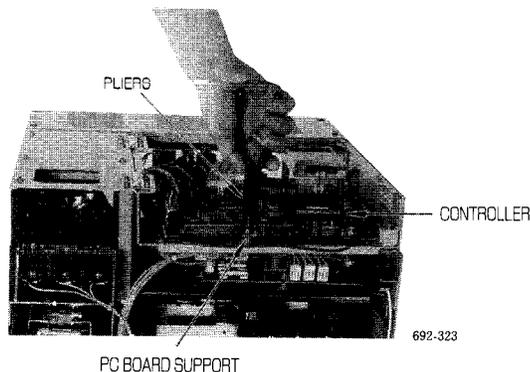

Fig. 15.5 Holding the PC Board Support with Pliers
- Loosen and remove the PC board mounting screws (five M4 screws) that fasten the controller. Hold the head of the PC board support with pliers and remove the controller from the support. (See Fig. 15.5.)